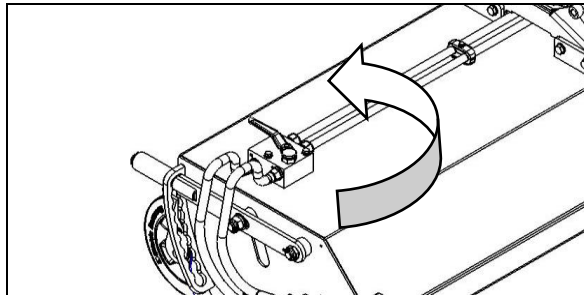

Fig. 4.35
- Close the shut-off valves to the hydraulic cylinder of the dirt hopper's emptying function (Fig. 4:34) and also the side brush hydraulic motor (Fig. 4.35).
- The support wheels (1) must face the rear.